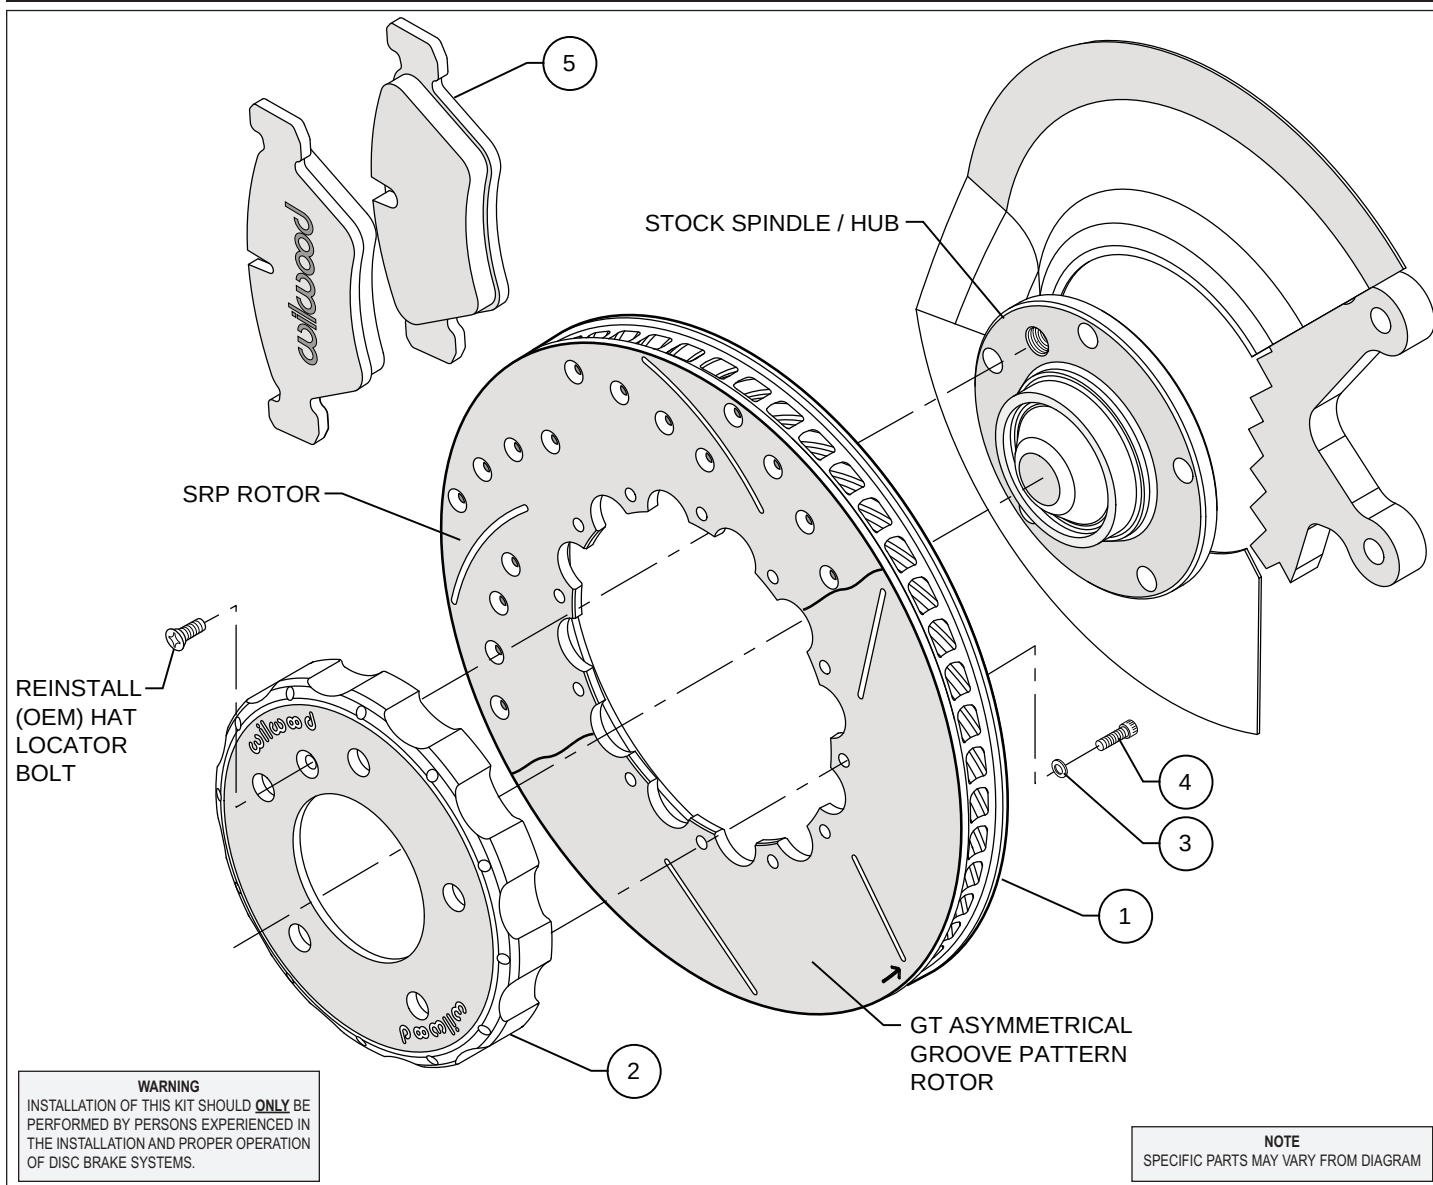
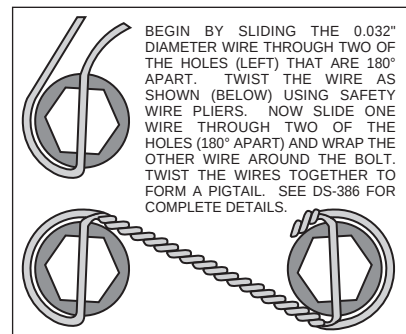

Figure 1. Typical Installation Configuration
Figure 2. Safety Wire Diagram
- With the larger I.D. side of the rotor (1) facing away from the hat (2), bolt the rotor (1) to the hat (2) through the backside of the rotor using bolts (4) and washers (3) as shown in Figure 1. Be sure all bolts thread in smoothly and are snug. Then, torque all bolts in an alternating sequence to **85 in-lbs.** The rotor mounting bolts (4) must be lockwired using standard 0.032 inch diameter stainless steel safety wire as shown in Figure 2. Please refer to Wilwood's data sheet DS-386 (available at www.wilwood.com/pdf/ds386.pdf) for complete safety wire installation instructions.
- Align the hole pattern on the hat (2) with the bolt pattern on the hub. Slide the hat and rotor assembly (1 and 2) onto the hub. Check to be sure the hat seats squarely against the hub face. The hub must be free from any rust, debris, casting burrs, machining irregularities, etc. Use the hat locator bolt (saved from disassembly) and several wheel bolts to hold the rotor and hat firmly against the hub face.
- Install new Wilwood BP-10 brake pads (5) into stock caliper.